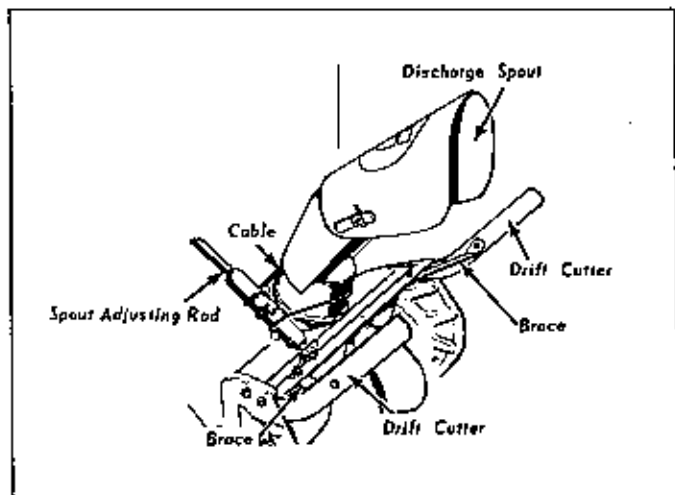
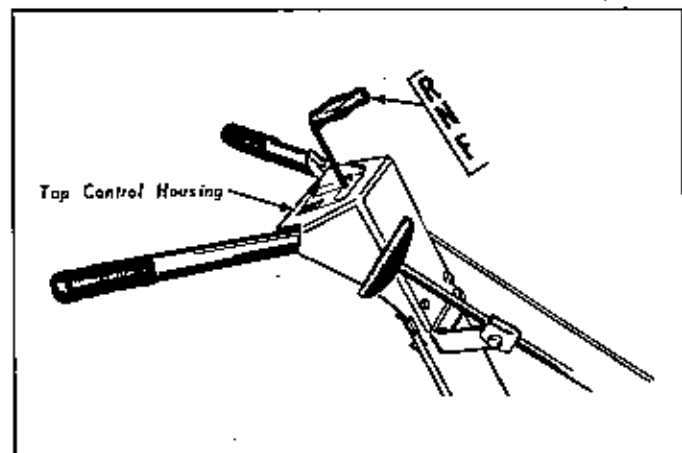

Figure 3
Figure 4
5. Attach the spout control cable as shown in Fig. 3. Insert the lower end of the spout control rod in the nylon bearing on the blower housing and hold in place with two cotter pins. The spout control rod support bracket is mounted in a reverse position for shipping purposes. Detach and mount as shown in Fig. 4. Tighten clamp as necessary to hold spout in desired position.
6. The 26" Sno-Away has as standard equipment, two drift cutters which are to be attached to the rotor housing. Assemble the right hand and left hand drift cutter loosely to the rotor housing as shown in Fig. 3, using two 3/8"-16 x 3/4" long hex capscrews and 3/8" lockwashers and 3/8"-16 hex nuts. Note that the cutters are attached to the inside surface of the rotor housing and the heads of the capscrews are on inside of rotor housing also. Loosely attach right hand and left hand cutters to inside top front edge of rotor housing with 5/16" -18 x 3/4" long hex cap screw, 5/16" lockwasher, and 5/16"-18 hex nut. Refer to the exploded view parts drawing on Page 10 for the relative position of these drift cutters and braces.
The direction of travel of the Sno-Away is controlled by the position of the transmission shift lever. Refer to Fig. 4. When shifting the transmission, always release Touch-O-Matic control. With the clutch disengaged, push down on the transmission shift lever and the transmission will shift into forward position and Sno-Away will travel forward when the clutch is engaged. To reverse the Sno-Away, disengage the clutch and pull up on shift lever and transmission will shift into the reverse position. Neutral position of the shift lever is half way between forward and reverse and the lever will be held in this position by a detent lever on the left side of the Sno-Away frame.